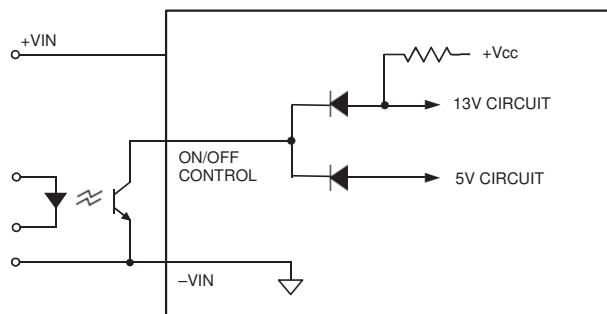

Figure 5. Driving the Negative Logic On/Off Control Pin (simplified circuit)
**Negative** ("N" suffix) logic devices are off when the On/Off pin is left open or is pulled high (see specifications), and on when the pin is pulled low with respect to the –Input as per Figure 5. See specifications.